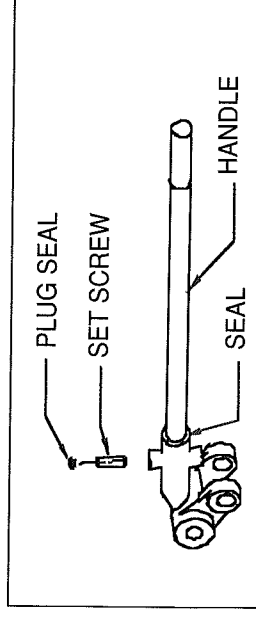

Figure 2
6. Apply a thin coat of sealant (RTV 102) at top edge of plastic plug supplied in package of components. Tap plug into hole over the set-screw. See Fig. 2.